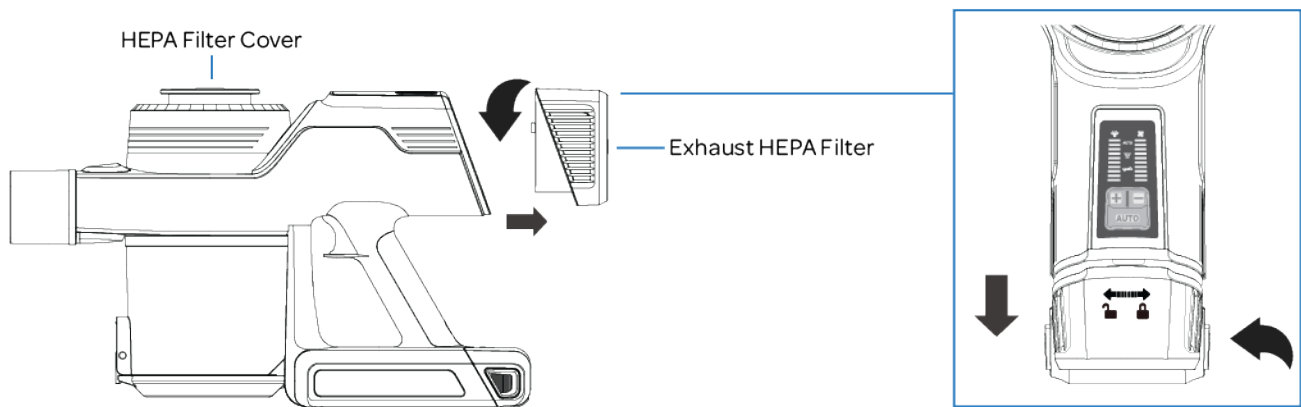

Figure 12
2. Turn the Exhaust HEPA Filter Cover to the left to unlock and release from the Main Body. (Figure 12)